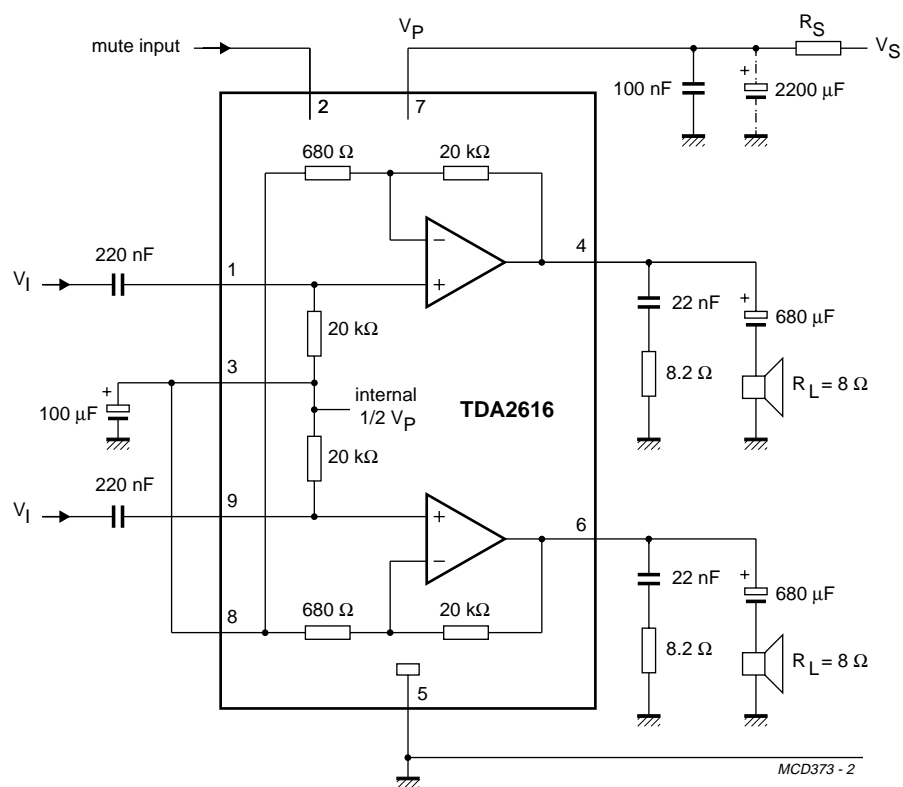

Fig.5 Test and application circuit with asymmetrical power supply.
6.  $V_{\text{P}} = 24 \text{ V}$ ;  $R_{\text{L}} = 8 \Omega$ ;  $T_{\text{amb}} = 25 \text{ }^\circ\text{C}$ ;  $f = 1 \text{ kHz}$ ; asymmetrical power supply  $I_{\text{MUTE}} < 30 \mu\text{A}$ . See Fig.5